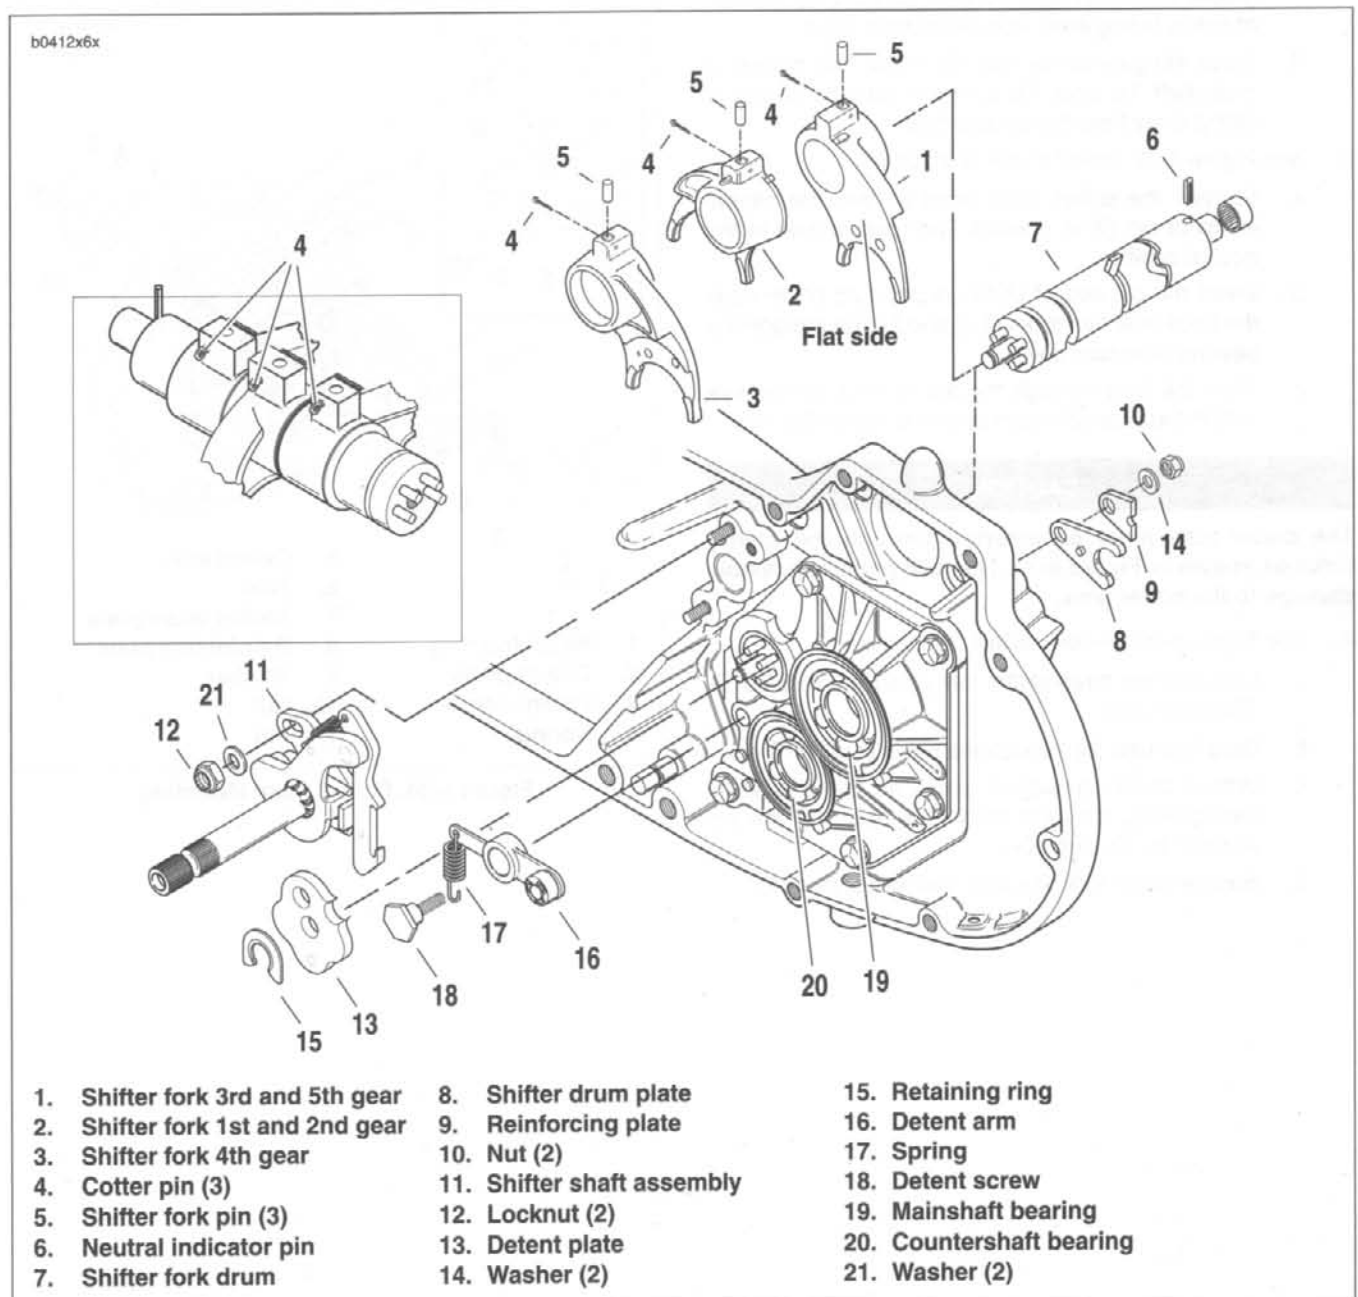
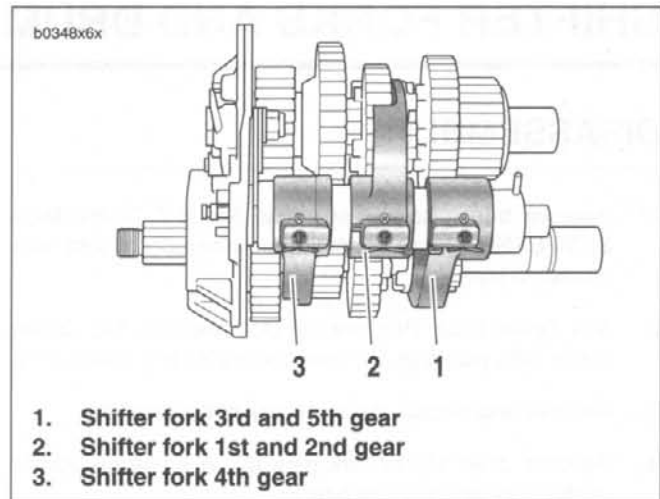

Figure 6-32. Shifter Mechanism
Figure 6-33. Shifter Fork Identification
2. See Figure 6-32. Remove nut (10), washer (14), detent screw (18), plates (8, 9), detent arm (16) and spring (17).
3. Remove and discard the three fork cotter pins (4).
4. Remove three shifter fork pins (5). A small magnet is useful in freeing the fork pins (5).
5. Slide shifter fork drum (7) away from access door, through shifter forks. The neutral indicator pin prevents removal in the other direction.
1. See Figure 6-32. Clean all parts except bearings (19, 20) with solvent.
1. See Figure 6-33. Identify all shifter forks before assembly. Note shape of fork and location of fork pin holes.
- b. Place 3rd and 5th gear shifter fork (1) in the fork groove of mainshaft 2nd gear. Be sure the flat side of fork is facing the access cover.
- c. Place 1st and 2nd gear shifter fork (2) in the fork groove of countershaft 3rd gear. Be sure the flat side of fork is facing away from the access door.
- d. Place 4th gear shifter fork (3) in the fork groove of mainshaft 1st gear. Be sure the flat side of fork is facing away from the access door.
3. See Figure 6-32. Install shifter shaft drum.
- a. Position the shifter drum shaft so that the neutral indicator pin (6) is upward. The shaft is then in the neutral position.
- b. Insert the pin end of shifter drum shaft (7) through the hubs of shifter forks (1, 2 and 3) and through the bearing in access cover.
The cotter pins must be inserted through the shifter forks as shown in Figure 6-33. This will prevent possible damage to the cotter pins.
4. See Figure 6-32. Secure shifter mechanism.
- a. Lubricate the three shifter fork pins (5) with SPORT-TRANS FLUID.
- b. Drop fork pins (5) through the holes in shifter forks.
- d. Secure shifter fork pins with new cotter pins (4).